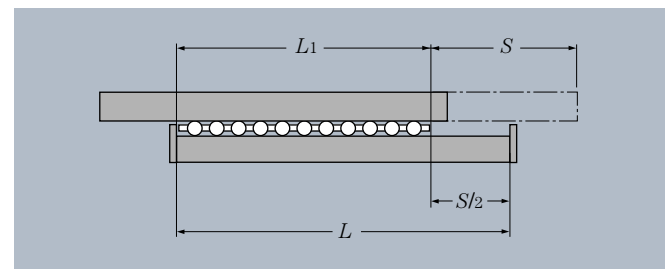

Fig. 2
Theoretically the linear flat roller bearing moves by 1/2 of table moving stroke in same direction as the table moving direction. The relationship of bed length (L) - stroke (S) - cage length (L_1) can be expressed in **formula (1)**. (**Fig. 2**)